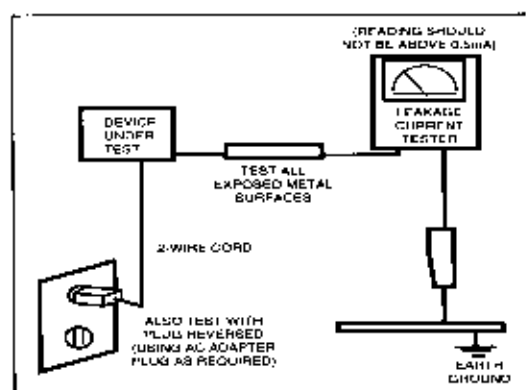

Figure 1-1. Leakage Current Test Circuit
3. Leakage Current Hot Check (Figure 1-1): **WARNING: Do not use an isolation transformer during this test.** Use a leakage current tester or a metering system that complies with American National Standards Institute (ANSI C101.1, *Leakage Current for Appliances*), and Underwriters Laboratories (UL Publication U1.1410, 59.7).